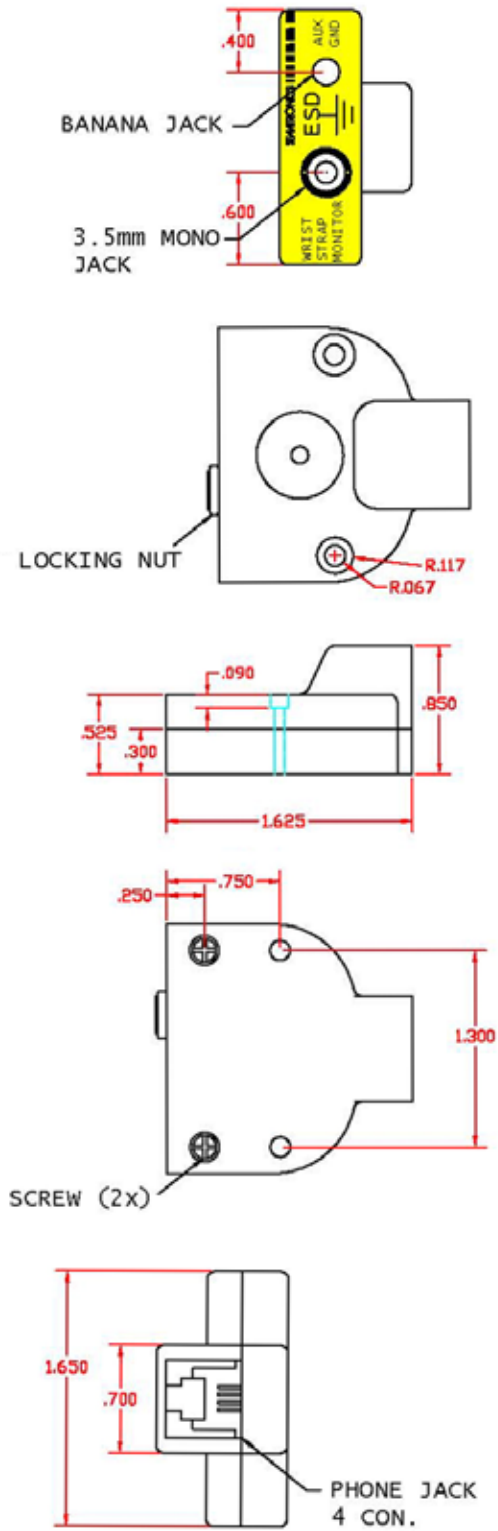

Figure 7. Operator Remote Dimensions
- C. Attach the operator remotes to the bench or other surface using the provided screws. (See Figure 7).
Remove the four case screws and open the monitor's case. BE SURE TO OBSERVE ESD PRECAUTIONS, AS THERE ARE ESD SENSITIVE DEVICES INSIDE THE CASE. Refer to Figure 7 for setting the test voltage to +5V and +8V.